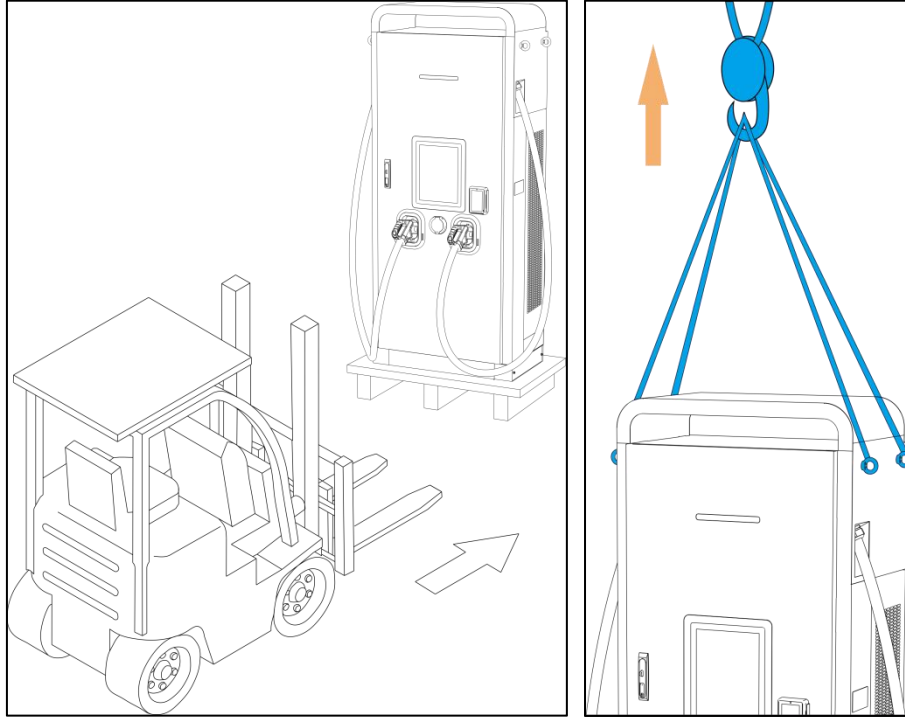

Figure 3.4.3-A
- Use forklift to transport the cabinet to the installation base, and use the crane to lift the cabinet. It is shown in **Figure 3.4.3-A**.
- Suspend the cabinet above the cement base, open the front door of the cabinet, and extend the embedded cable from the bottom of the cabinet through the inlet hole (the rubber film of the inlet hole needs to be punctured). At this time, slowly lower the cabinet and pull the remaining cables out from the front door until the cabinet is completely placed on the base. As shown in **Figure 3.4.3-B**.